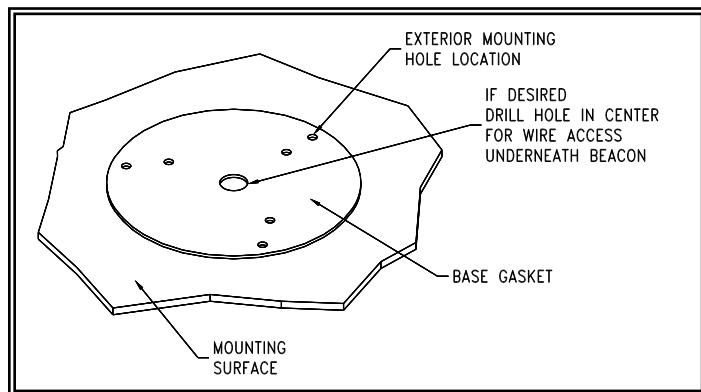

Figure 1
1. Using the base gasket as a template, mark the three mounting hole locations (see Figure 1).
3. A fourth hole may be drilled for wire access as shown in Figure 1, or the wires may be routed through the slot in the base for external access.